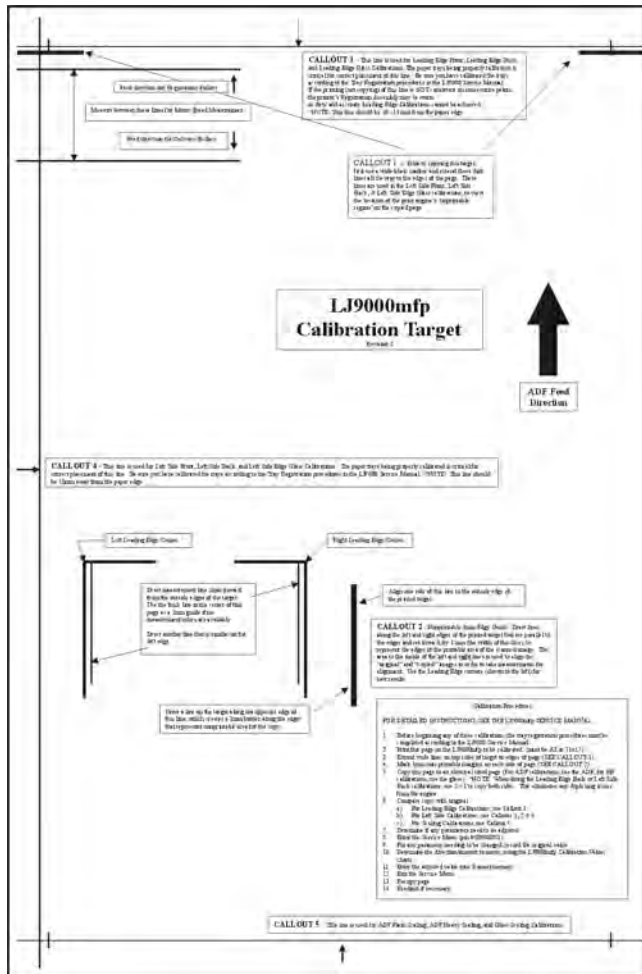

Figure 211. Left side front calibration (1 of 4)
- 2 On the MFP to be calibrated, print the calibration target on ledger or A3 paper. See figure 211.